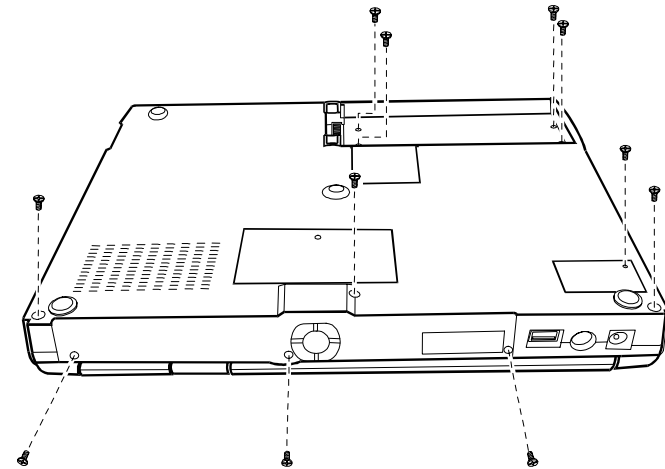

Figure 7-28. Removing Bottom Screws and Rear Side Screws
3. Place the notebook upside down. Replace eleven screws fixing the surface frame with the bottom board. (Refer to Figure 7-28 earlier.)